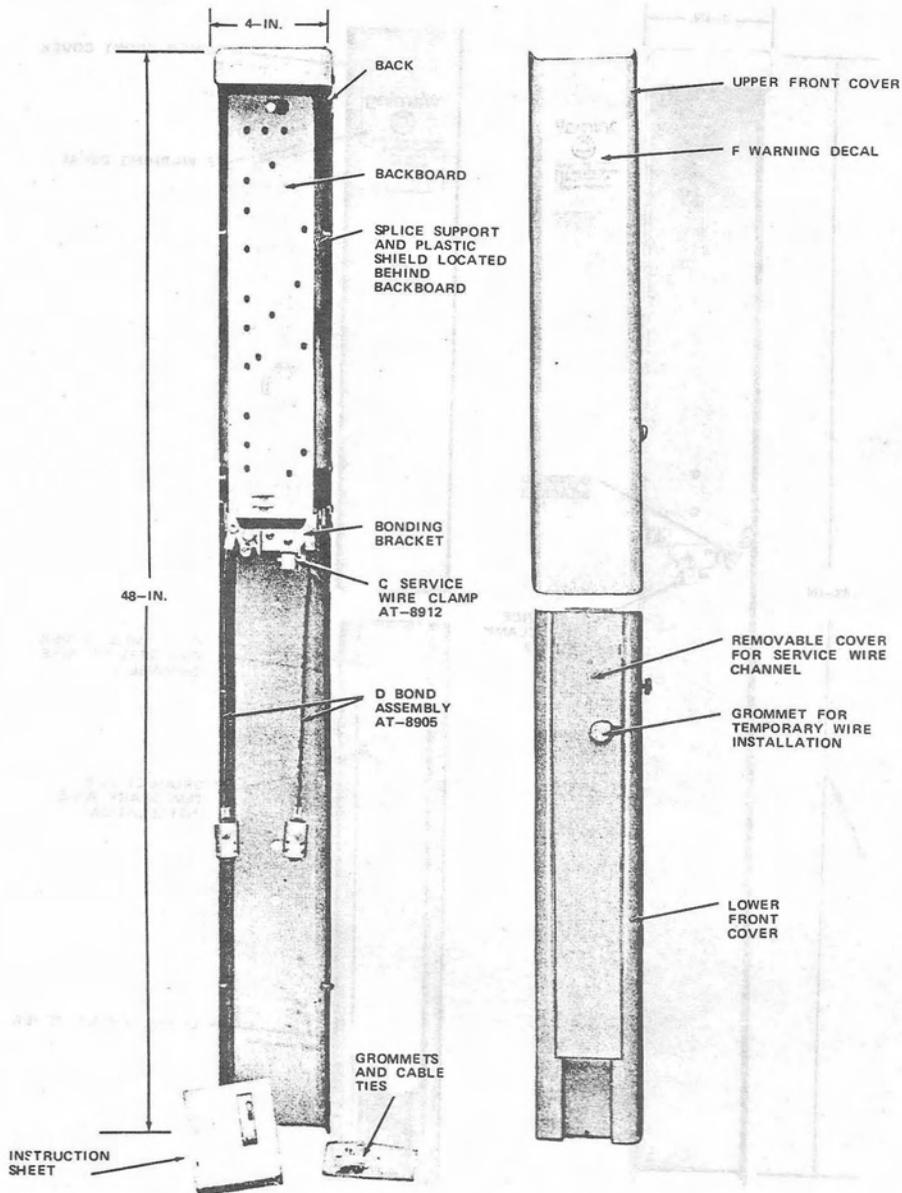

Fig. 1—PC4/48 Cable Closure
2.01 ◆The PC4/48, PC4/48M, PC6/48, and PC12/55 cable closures are assemblies of steel parts consisting of components shown in Fig. 1, 2, 3, and 4, respectively.